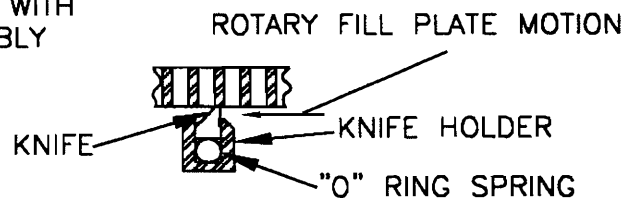

FIGURE 3
THE ROTO-FLOW FILL SYSTEM IS POWERED BY A SEPARATE 3 PHASE MOTOR (SEE FIGURE 3) WHICH IS STARTED BY THE SAME CONTACTOR THAT STARTS THE MAIN DRIVE MOTOR FOR THE PATTY MACHINE. OVERLOAD PROTECTION IS PROVIDED BY AN OVERLOAD RELAY LOCATED IN THE TOP LEFT AREA OF THE CONTROL BOX (SEE THE ROTO-FLOW ELECTRICAL ASSEMBLY). THE MOTOR IS COUPLED TO A WORM GEAR BY A COUPLING WHICH ALLOWS THE MOTOR TO BE MOVED OUT OF POSITION SO THAT THE ROTO-FLOW PARTS CAN BE REMOVED FOR DISASSEMBLY OF PARTS.
2. ASSEMBLE THE KNIFE (ITEM 5), "O" RING SPRING (ITEM 4), AND KNIFE HOLDER (ITEM 3) SEPARATELY AS SHOWN IN FIGURE 3. BE SURE THAT THE KNIFE EDGES ARE TOWARD THE ROTATING FILL PLATE (ITEM 31). IT IS POSSIBLE TO ASSEMBLE THE KNIFE UPSIDE DOWN.